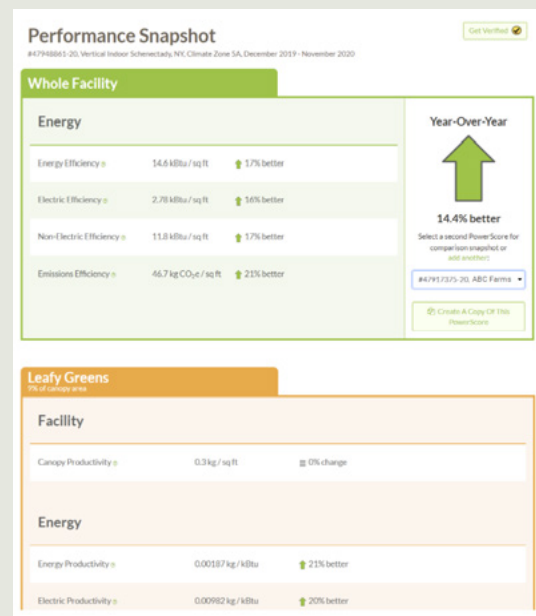

Figure 3: Example PowerScore Facility Performance Snapshot
- Use PowerScore to benchmark pre-project Performance Snapshot reports to establish facility baselines for comparison with post-project benchmarks and continuously benchmark for key KPIs year-over-year. **Figure 3** at left shows an example PowerScore Performance Snapshot for a indoor vertical farm.